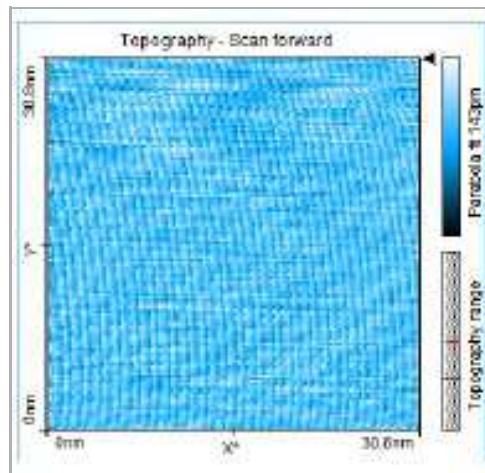

Fig. 16: Image size: 30 nm, Time/Line: 0.13 s, Set point: 1.2 nA, P-gain: 1200, I-gain: 1500.
- Change the size of the new scan range to about 30–50 nm (Fig. 16) by clicking and dragging a corner of the square with the mouse cursor.